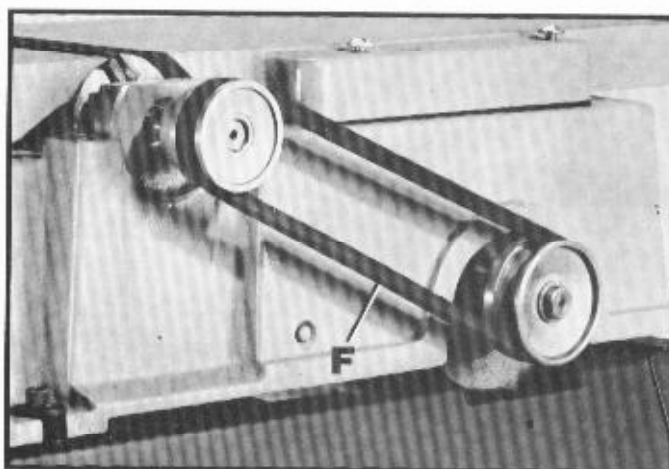

Fig. 42
5. Remove and replace drive belt (F) Fig. 42